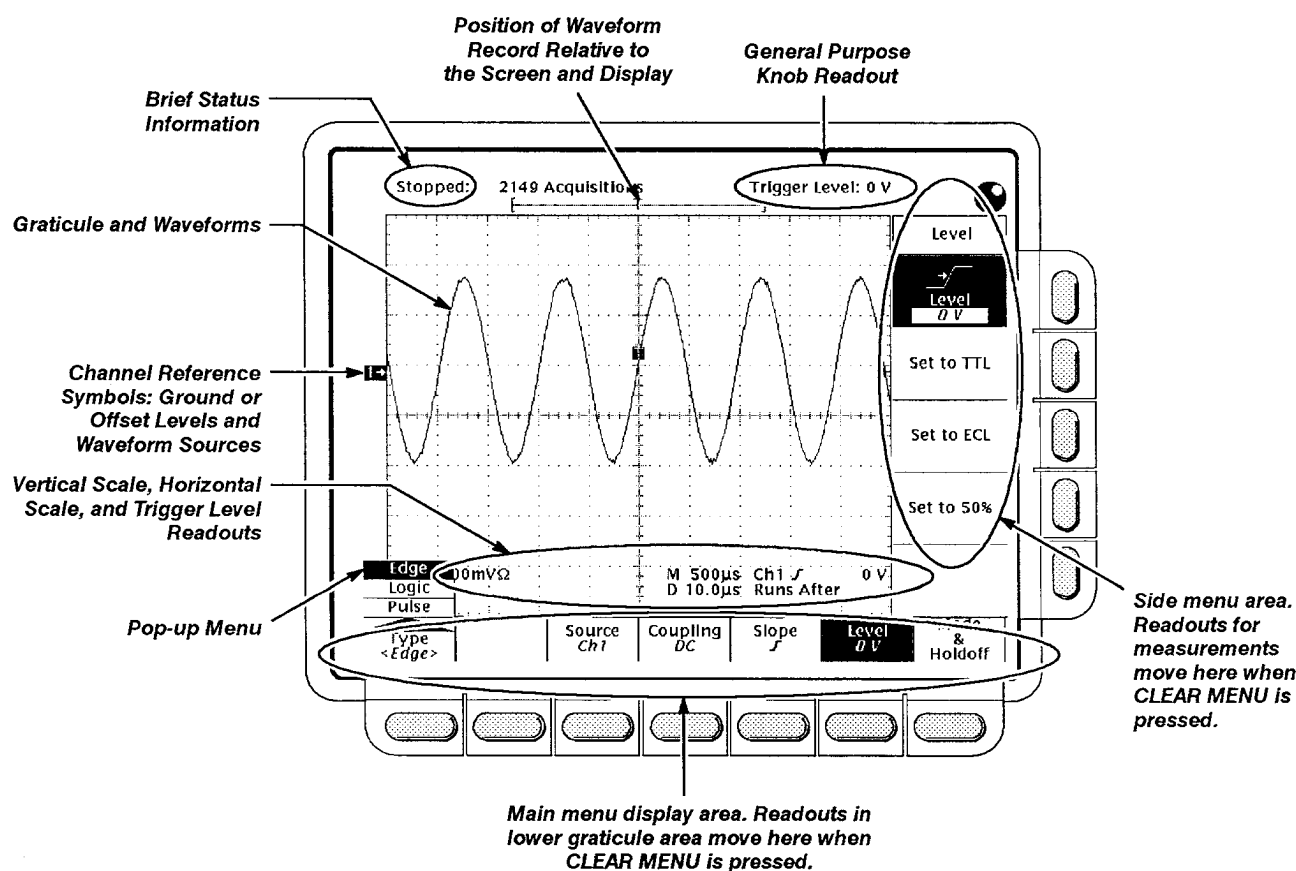

Figure 4-1: Map of Display Functions
- Refer to Figure 4-1: “Main menu” refers to the menu that labels the seven menu buttons under the display; “side menu” refers to the menu that labels the five buttons to the right of the display. “Pop-up menu” refers to a menu that pops up when a main-menu button is pressed.
- The vertical scale readout for the channel under test shows a setting of 200 mV, and a square-wave probe-compensation signal about 2.5 divisions in amplitude is on-screen. (See Figure 4-1 on page 4-3 to locate the readout.)
- The vertical scale readout for the channel under test shows a setting of 1 V, and a square-wave probe-compensation signal about 1/2 division in amplitude is on-screen. (See Figure 4-1 on page 4-3 to locate the readout.)